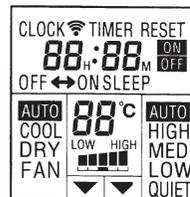

Fig. 8
⑳ Display do Controle Remoto (Fig. 8)